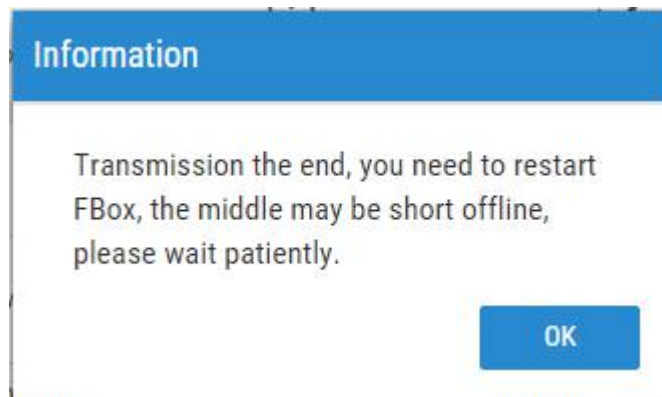

Fig. 4.9-11 System information message box after Ethernet transmission
(5) After the completion of the setting, you can operate the remote PLC, such as download, connect or upload. The settings for the different PLC are not consistent, see: List of Devices Supported by FBox.
(6) Return to the FBoxClient software when the download is completed. After clicking the "Stop" button in the Ethernet "Transmission Downloading" dialog, a system information message box will pop up, as shown in Fig. 4.9-11. Click the "OK" button to finish the transmission.